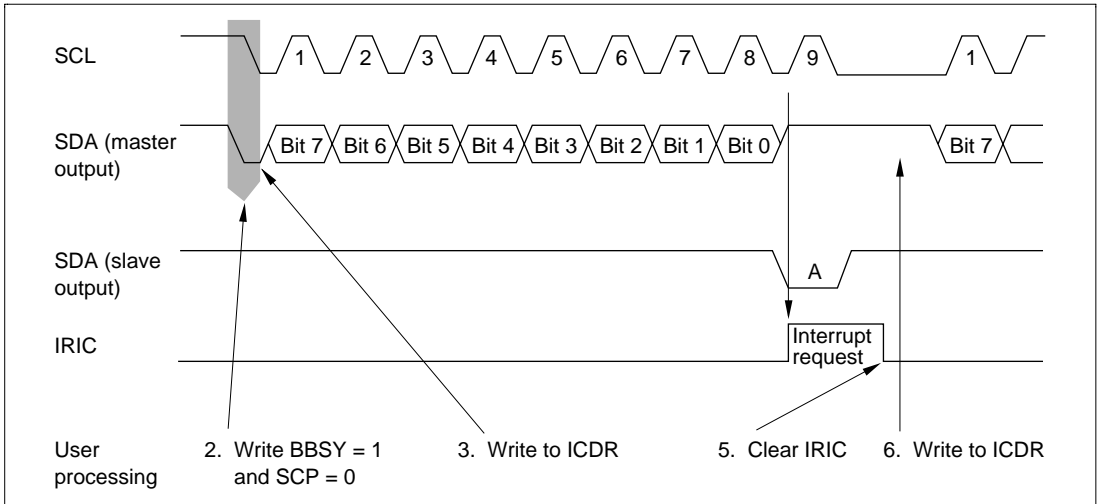

Figure 13.6 Operation Timing in Master Transmit Mode
3. Write data in ICDR. The master device outputs the written data together with a sequence of transmit clock pulses at the timing shown in figure 13.6. If FS is 0 in SAR, the first byte following the start condition contains a 7-bit slave address and indicates the transmit/receive direction. The selected slave device (the device with the matching slave address) drives SDA low at the ninth transmit clock pulse to acknowledge the data.